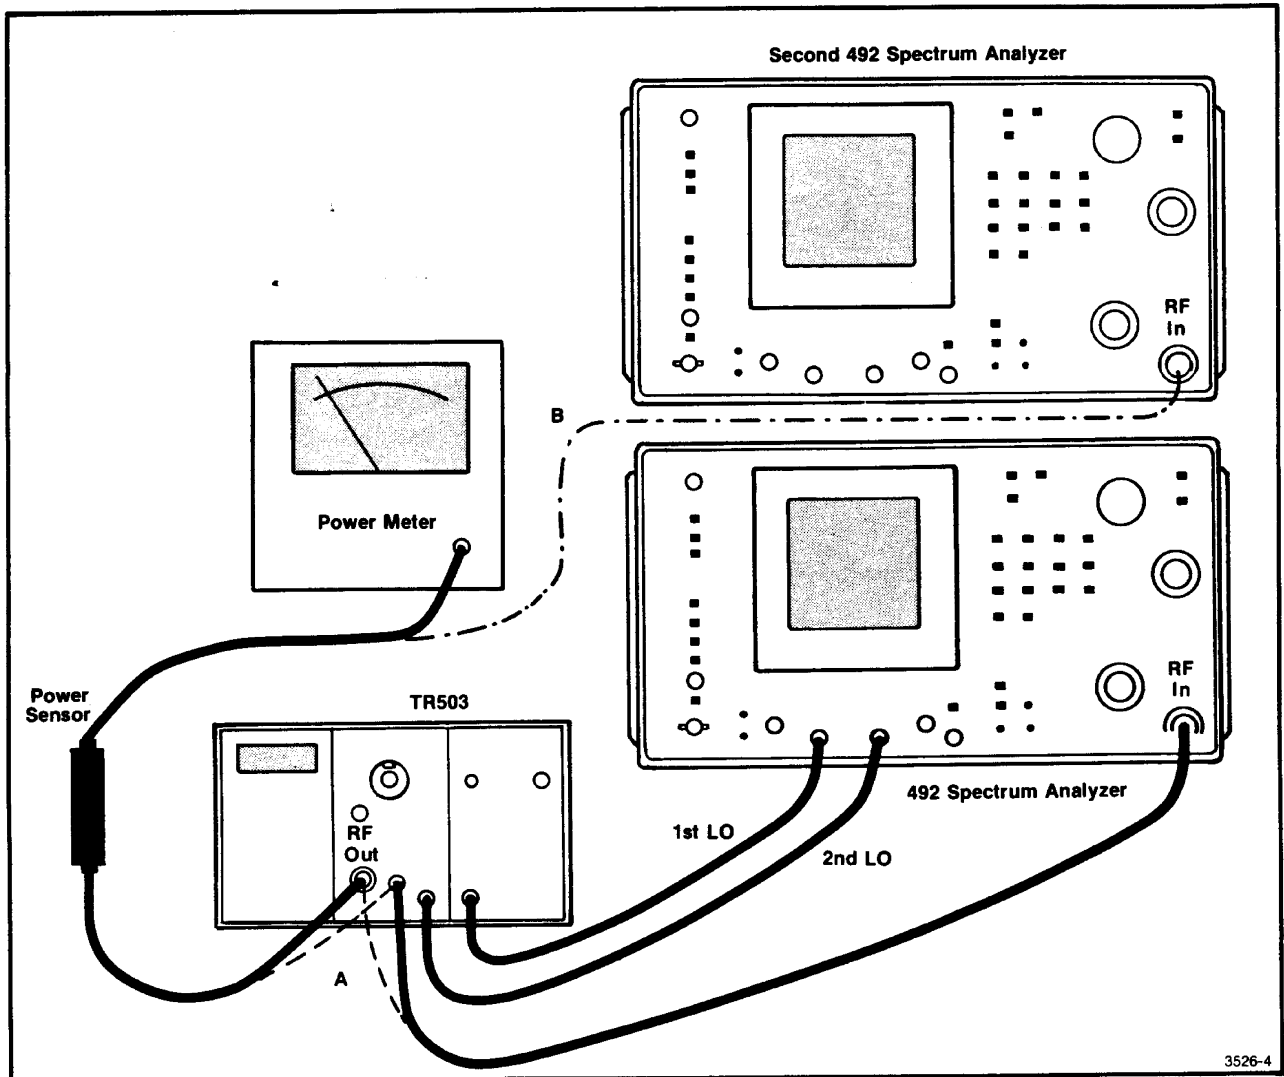

Fig. 4-1. Setup for Performance Check.
d. The remaining procedures require test equipment (shown in the table at the beginning of this section). They check the output level, output flatness, auxiliary output level, and spurious signal levels. Refer to Fig. 4-1 for the connections used in these procedures.
Refer to Fig. 4-1 and use connection "A".
This procedure requires a second spectrum analyzer. Although the procedure describes a 492, other analyzers such as a 7L12 or 7L13 may be used. Refer to Fig. 4-1 and use connection "B".